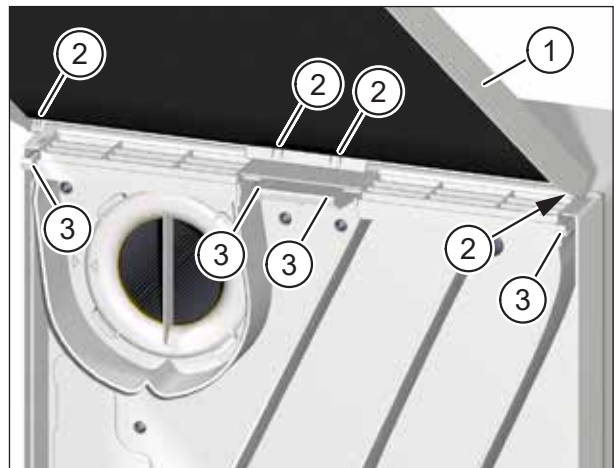

Fig. 19: Attach unit cover to ventilation unit
- ▶ Hold the cover (item 1 in Fig. 19) of the ventilation unit with both hands and tilt the top edge of the cover towards the ventilation unit.
- ▶ Insert the tabs (item 2 in Fig. 19) of the unit cover into the retainers (item 3 in Fig. 19) on the top of the ventilation unit.